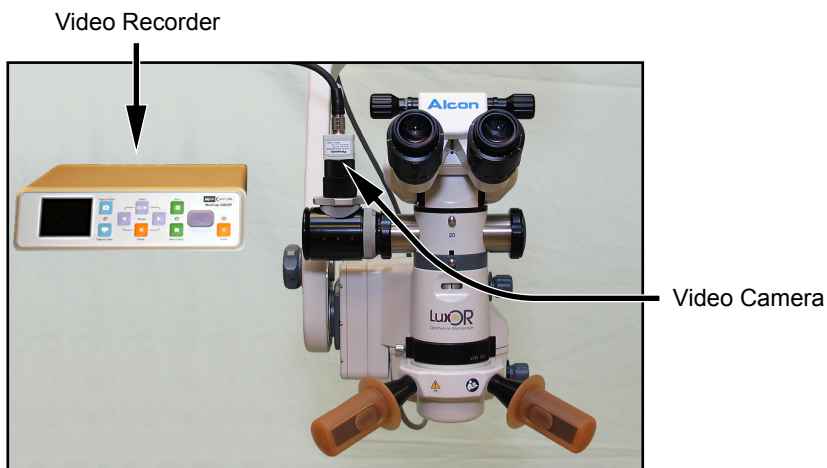

Figure 6-5 Installing the Video Camera and Recorder
5. Firmly thread video camera on to top of video adapter, (Figure 6-5).